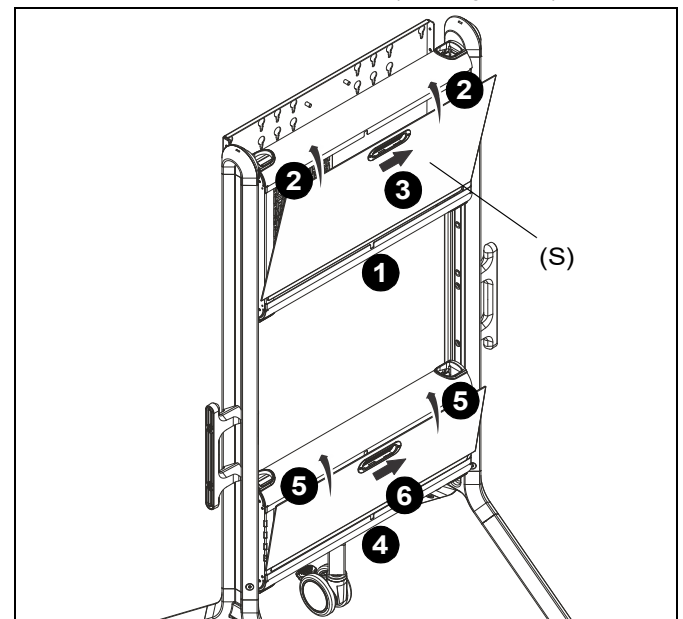

Figure 16
1. Place large cover (S) in position to install by placing lower edge along slot that holds cover. (See Figure 16)
2. Press large cover (S) against cart until it is flush with cart and is secured in position. (See Figure 16)
3. Slide handle to locked position. (See Figure 16)
4. Place small cover (R) in position to install by placing lower edge along slot that holds cover. (See Figure 16)
5. Press small cover (R) against cart until it is flush with the cart and is secured in position, (See Figure 16)
6. Slide handle to locked position. (See Figure 16)